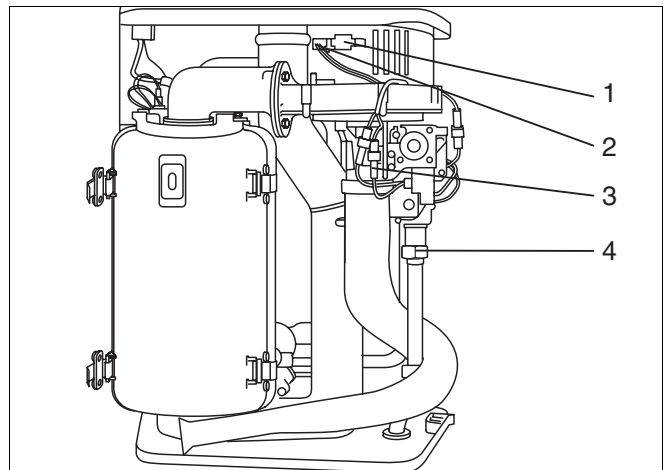

Fig. 52 Replacing the fan on the 600 Series:
- Disconnect the fan, using the plug and socket from the power supply (fig. 52, item 1), loosen the UBA control cable at the fan (fig. 52, item 2) and the gas burner connection fitting (fig. 52, item 3).
- Loosen the union nut (fig. 52, item 4) on the gas burner fitting.